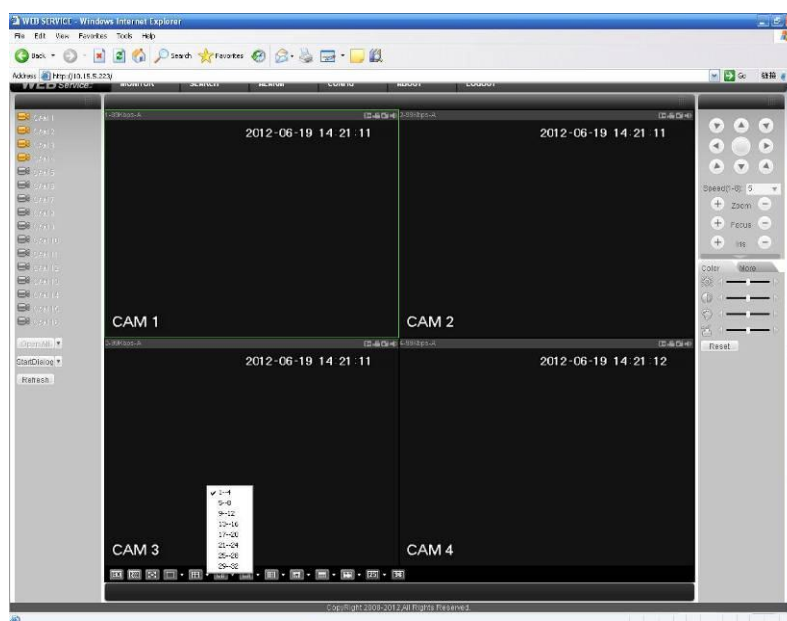

Figure 8-15
- 2) You can select different channel and different monitor mode at the bottom of the interface. See Figure 8-15.